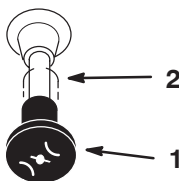

Figure 11
7. After the engine starts, move the choke to off (Fig. 11). If the engine stalls or hesitates, move the choke back to on for a few seconds. Then move the throttle lever to desired setting. Repeat this as required.